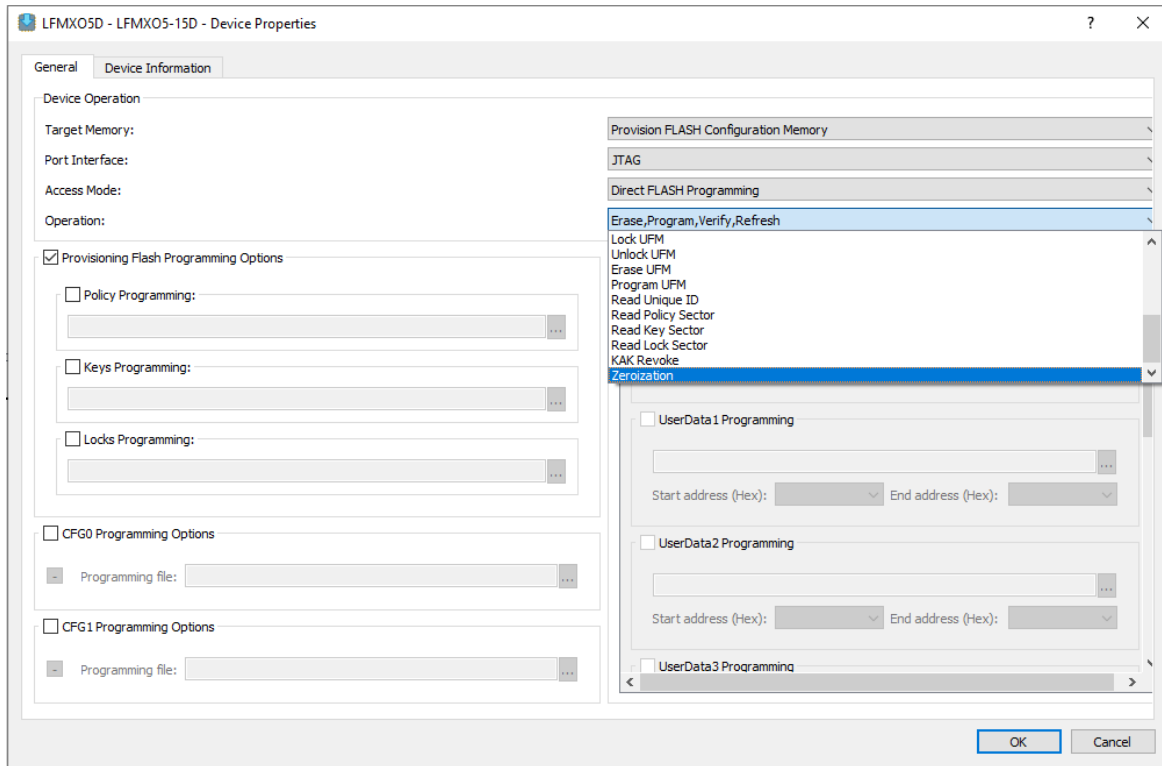

Figure 9.2. Radiant Programmer Software – Device Properties GUI for Flash Operation
- b. Double-click the Operation options or click Device Properties under **Edit** menu. The Device Properties GUI pops up for Flash Operation. Select Zeroization from **Operation** drop down menu, as shown in Figure 9.2.